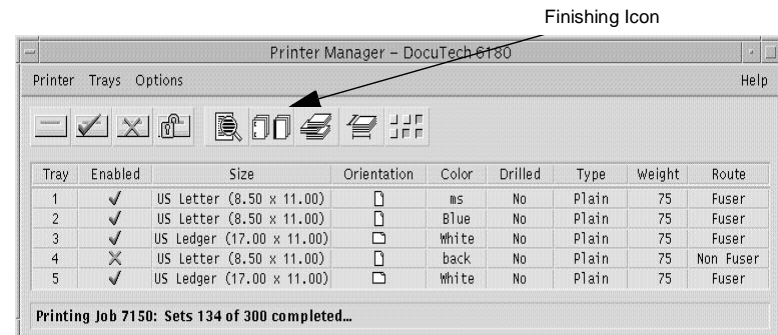

Figure 6-13 The Finishing Icon in Printer Manager
2. Click the **Finishing Icon** in the Printer Manager Window, as shown in Figure 6-13.